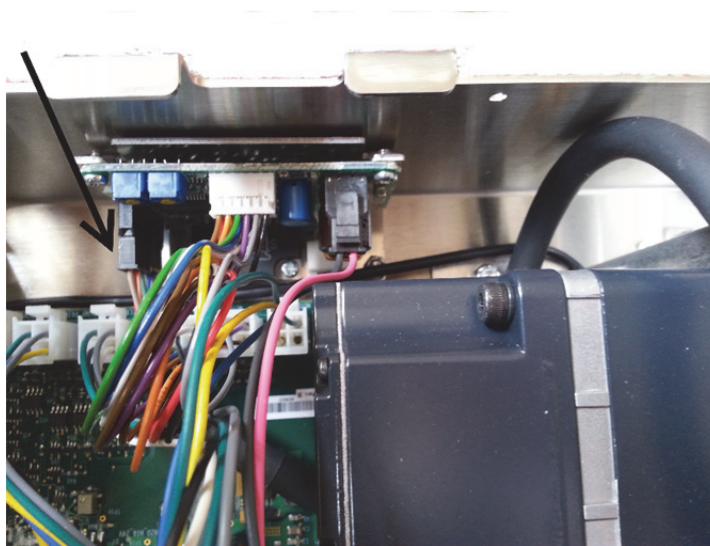

Figure 1
4. Remove the Motor Harness connection from the Motor Driver Board. See figure 1.
2. Using the original mounting screws (4) secure the board to the chassis.
3. Connect the Motor Harness to the Motor Driver Board. See figure 1 in the previous section.